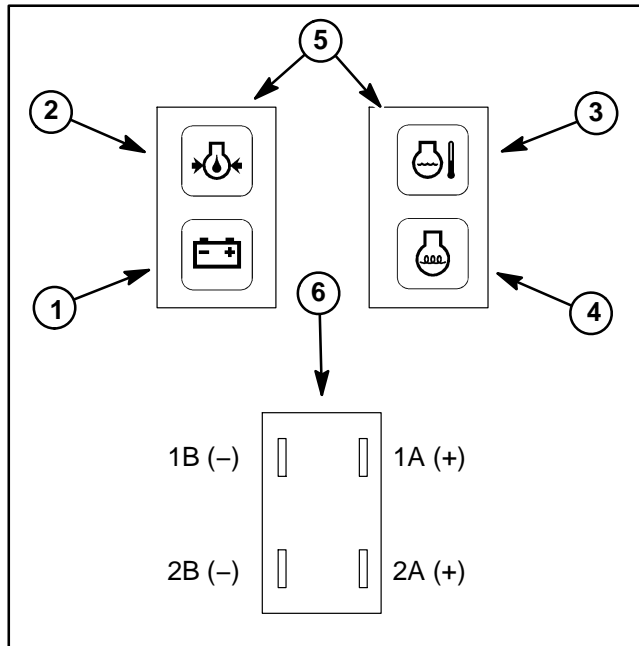

Figure 40
2. Apply 12 VDC to terminals 1A and 2A (Fig. 40) and ground terminals 1B and 2B (Fig. 40).